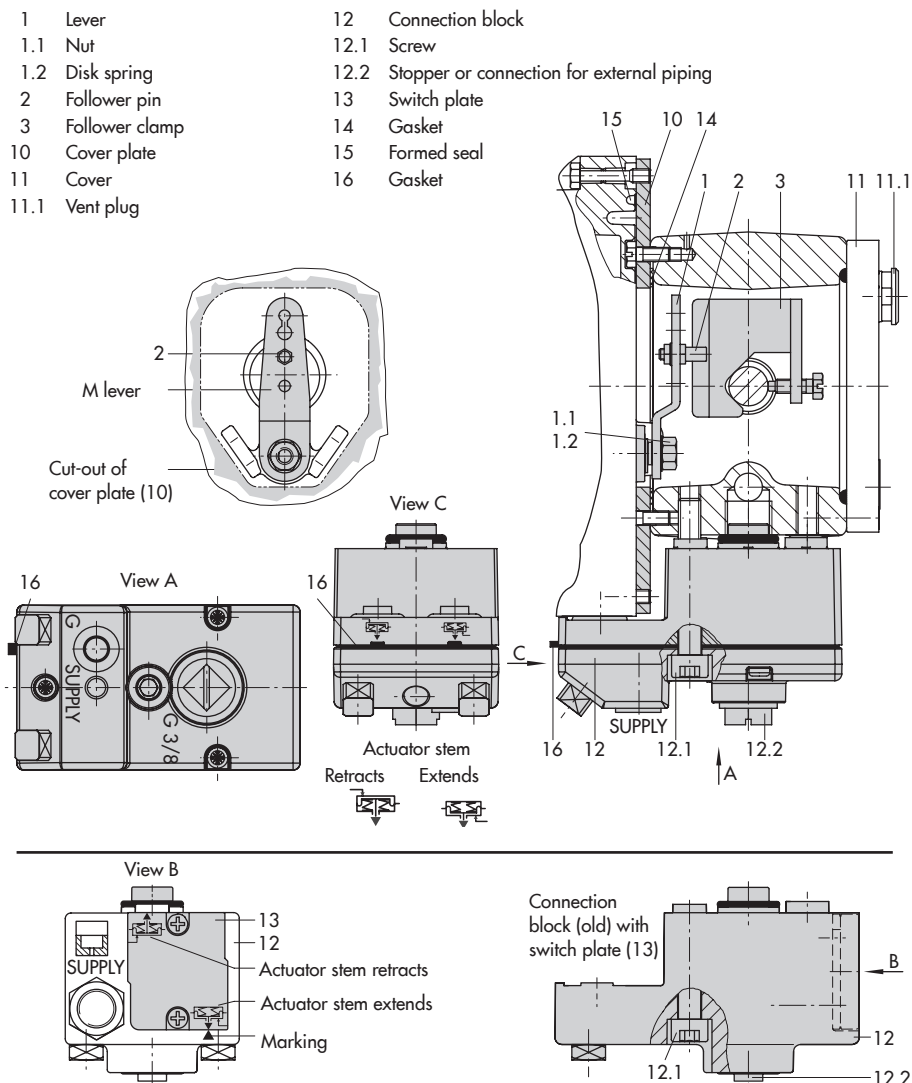

Fig. 4: Direct attachment – Signal pressure connection for Type 3277 Actuator with 175 to 750 cm²
Actuators with 175 to 750 cm² effective areas (see Fig. 4)
1. Place follower clamp (3) on the actuator stem, align it and screw tight so that the mounting screw is located in the groove of the actuator stem.
2. Mount cover plate (10) with narrow side of the cut-out (Fig. 4, on the left) pointing towards the signal pressure connection. Make sure that the gasket (14) points towards the actuator yoke.
3. For actuators with 355, 700 or 750 cm², remove the follower pin (2) on the **M** lever (1) on the back of the positioner from pin position **35**, reposition it in the hole for pin position **50** and screw tight.
6. Make sure that the tip of the gasket (16) projecting from the side of the connection block is positioned to match the actuator symbol for the actuator's fail-safe action "actuator stem extends" or "actuator stem retracts". If this is not the case, unscrew the three fastening screws and lift off the cover. Turn the gasket (16) by 180° and re-insert it.
The old connection block version (Fig. 4, bottom) requires the switch plate (13) to be turned to align the actuator symbol with the arrow marking.
7. Place the connection block (12) with the associated seals against the positioner and the actuator yoke and fasten using the screw (12.1). For actuators with fail-safe action "actuator stem retracts", additionally remove the stopper (12.2) and mount the external signal pressure pipe.
8. Mount cover (11) on the other side.